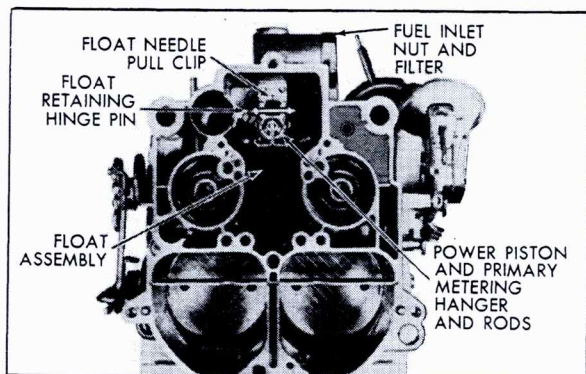

Fig. 6-70 Float Bowl Partially Disassembled
8. Remove power piston retainer clip and remove power piston and primary metering rods, using needle nosed pliers to pull straight up on metering rod hanger directly over power piston, Fig. 6-70. Remove power piston spring from well.